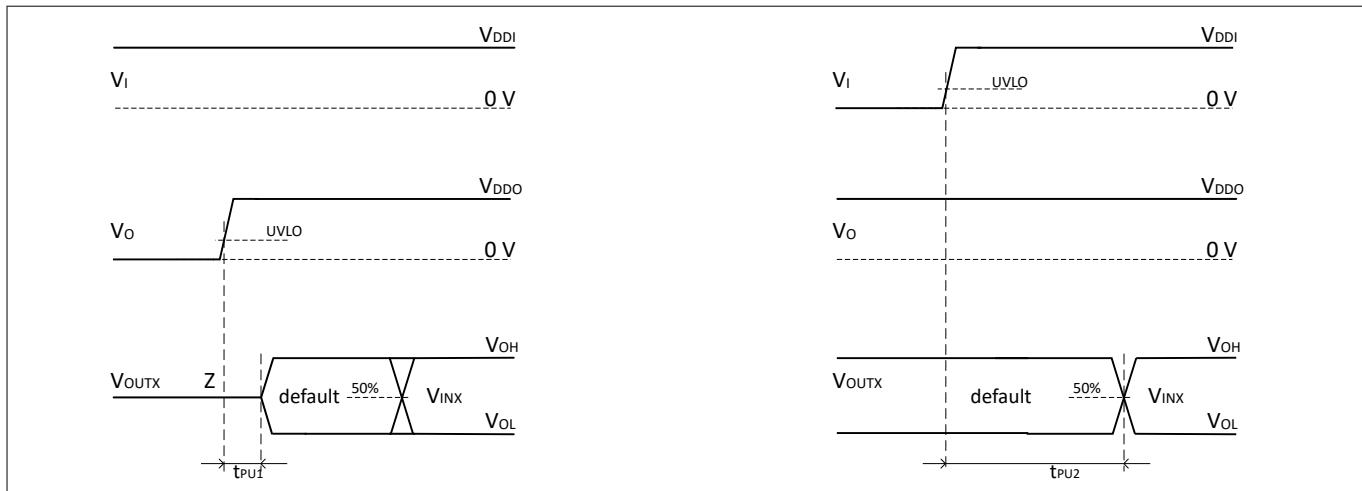

Figure 17 Power-up delay time
Figure 17 illustrates the output behavior when input and output side supplies have different power-up timings where the power-up time is $t_{PU} = \max\{t_{PU1}, t_{PU2}\}$.
Communication based on Coreless Transformer (CT) is used for signal transfer between input and output channels. If a constant DC level within the operating range is applied at the input, a proven high resolution pulse repetition scheme ensure functionality, enabling the output to follow the constant DC input. It also enables recovery from communication fails and safe system shutdown. In case of a power loss at the input channel, the pulse repetition scheme will be disabled and a watch-dog timer at the output triggers approximately after t_{DO} time period and drives the channel output to the default state. In case of multiple channels on the output side, the first watch-dog timer detecting the power loss at the input will drive all output channels on that side to default value. Once the power supply on the input channels is above the threshold value ($V_{DDX}(\text{UVLOon})$), the communication is restored and the output will follow the input as shown in Figure 17.